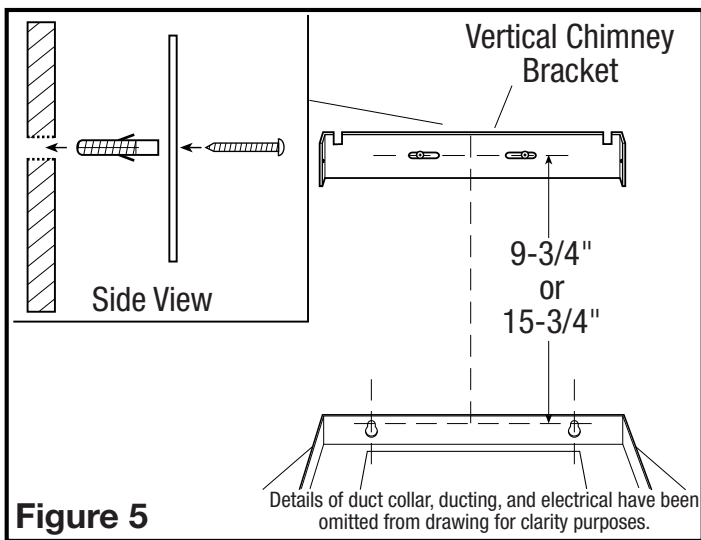

Figure 5
2. If installing onto drywall, drill holes into wall using a 3/16" drill bit. Install wall anchors into the drilled holes (one for each hole). Secure bracket into place with (2) provided #6 x 1" screws. If installing into other material (brick, cement, plaster, etc.) choose an appropriate fastener capable of supporting the weight of the chimney (**Figure 5**).